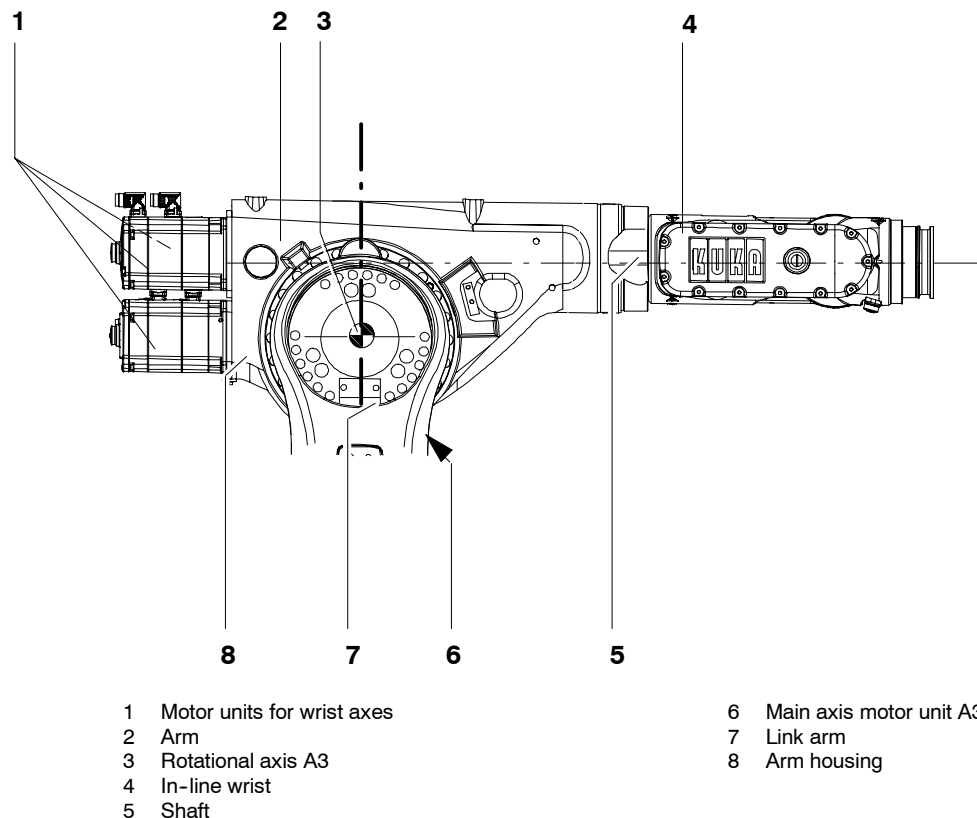

Fig. 4 Arm
The arm assembly (Fig. 4/2) embodies the driven element of axis 3 of the manipulator. The arm is flange-mounted to the side of the link arm (7) through a gear unit with integrated bearings and is driven by main axis motor unit A3 (6). The swivel axis (3) of the arm has been so selected that with the rated payload there is no need for an additional counterweight to balance the masses on the arm.